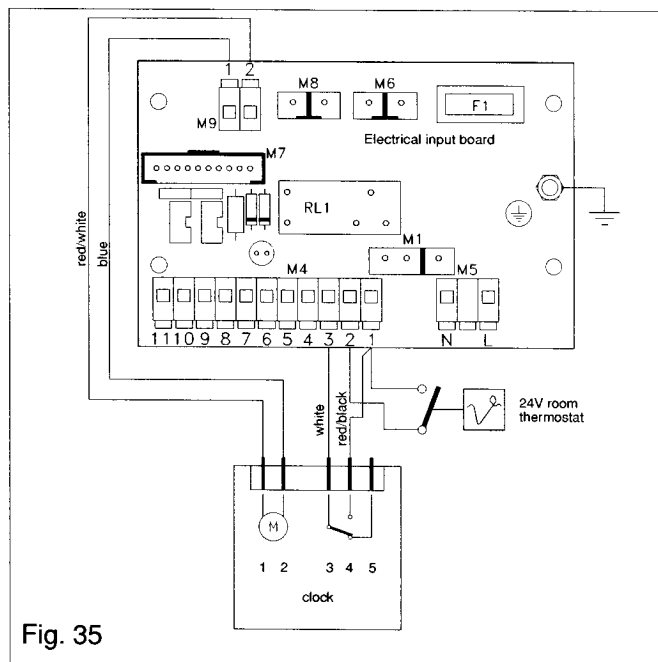

Fig. 35
- Connect the wires to the clock as shown in fig.35.
- Connect the clock wires to the electrical input board as shown in fig. 35.